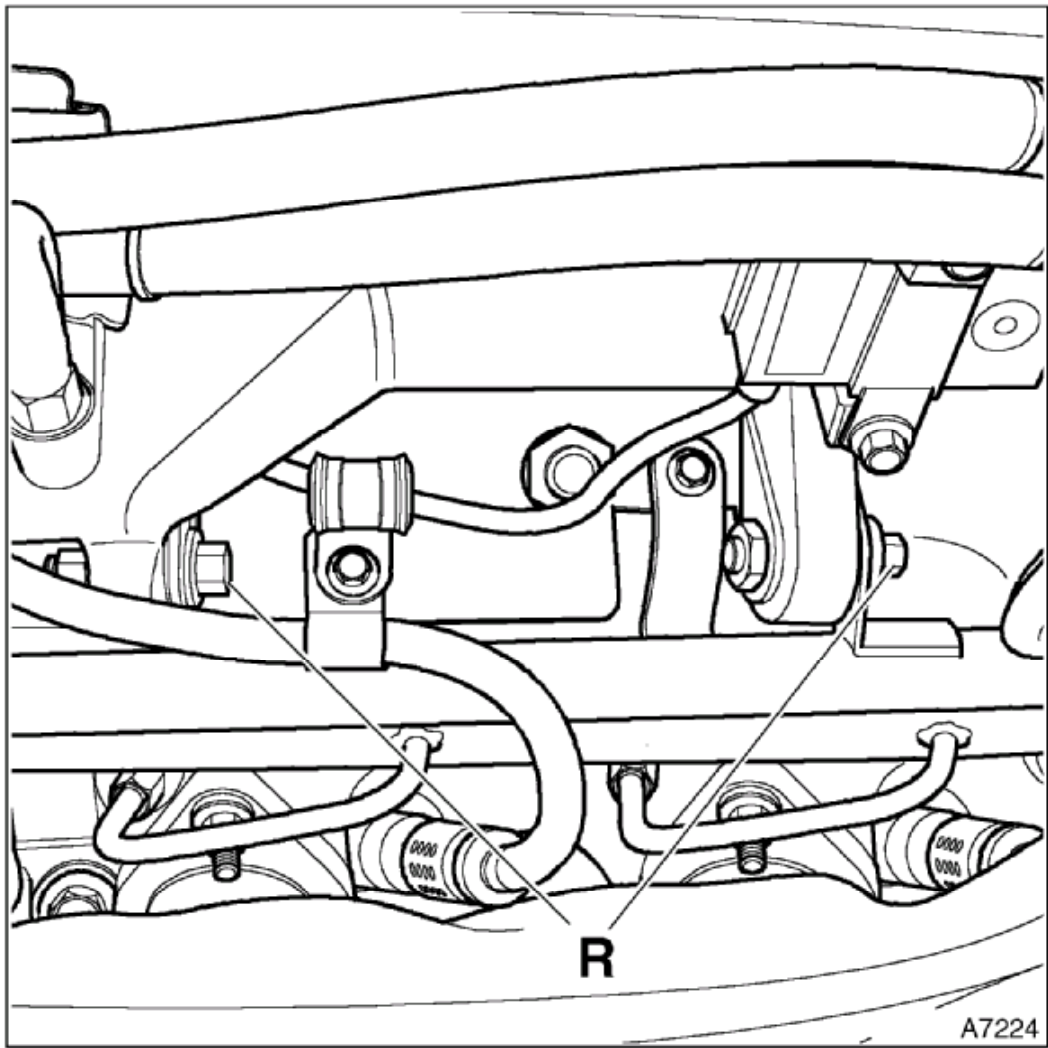

Figure. 10
- the outer side, and one on the inner. See figure 10.